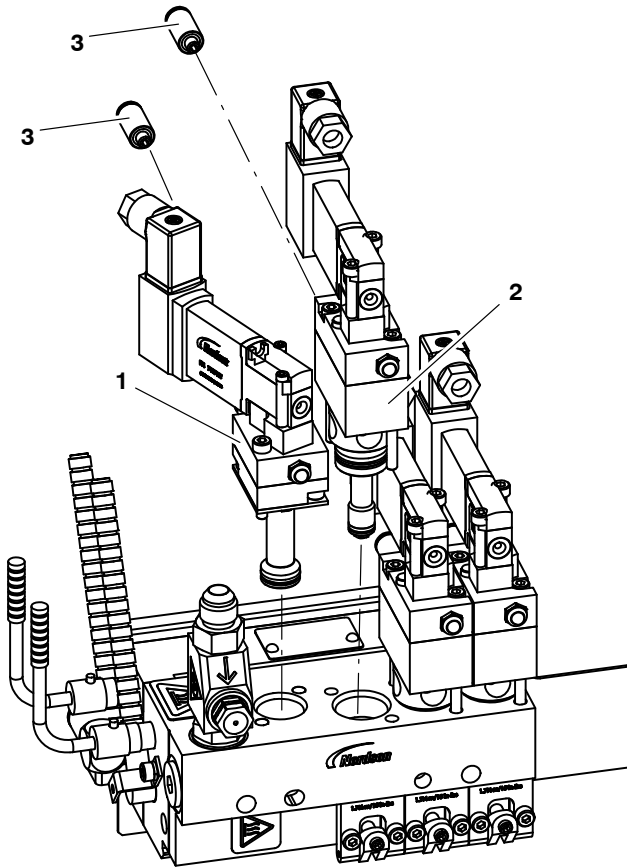

Figure 10: Removing a control module
See Figure 10.
3. See Figure 10. Insert the module and mounting screws in the manifold or adapter, **ensure that the module is fully seated**, and hand-tighten the mounting screws.